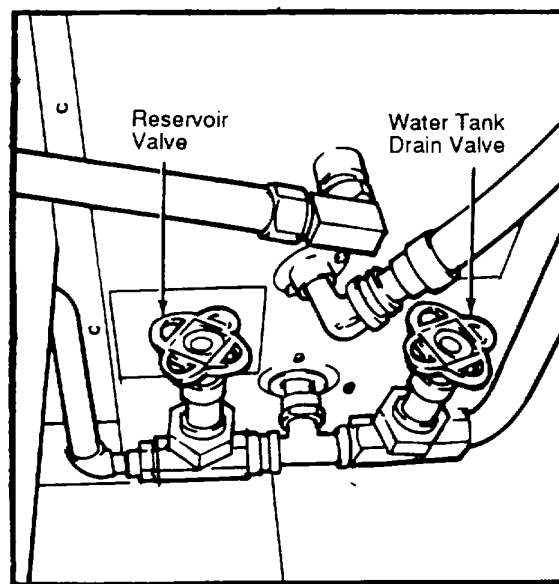

Figure 2-11. Reservoir and Water Drain Valves
(3) Ensure the water tank drain and reservoir drain valves in the mechanical room are both closed and that exterior drains are closed (Figure 2-11).